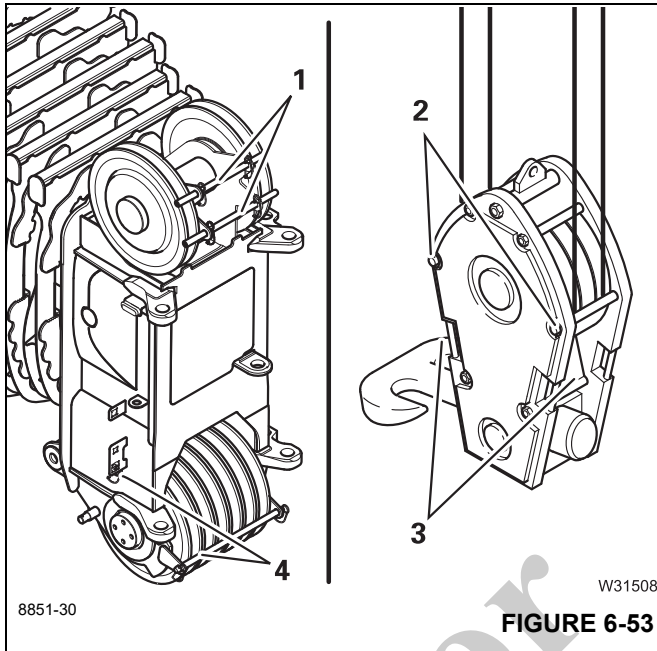

FIGURE 6-53
- Insert the rods (1), (Figure 6-53) and (4), (Figure 6-53).
- Fold up the sheet metals (3), (Figure 6-53) on both sides.
- Insert the rods (2), (Figure 6-53) and secure them.